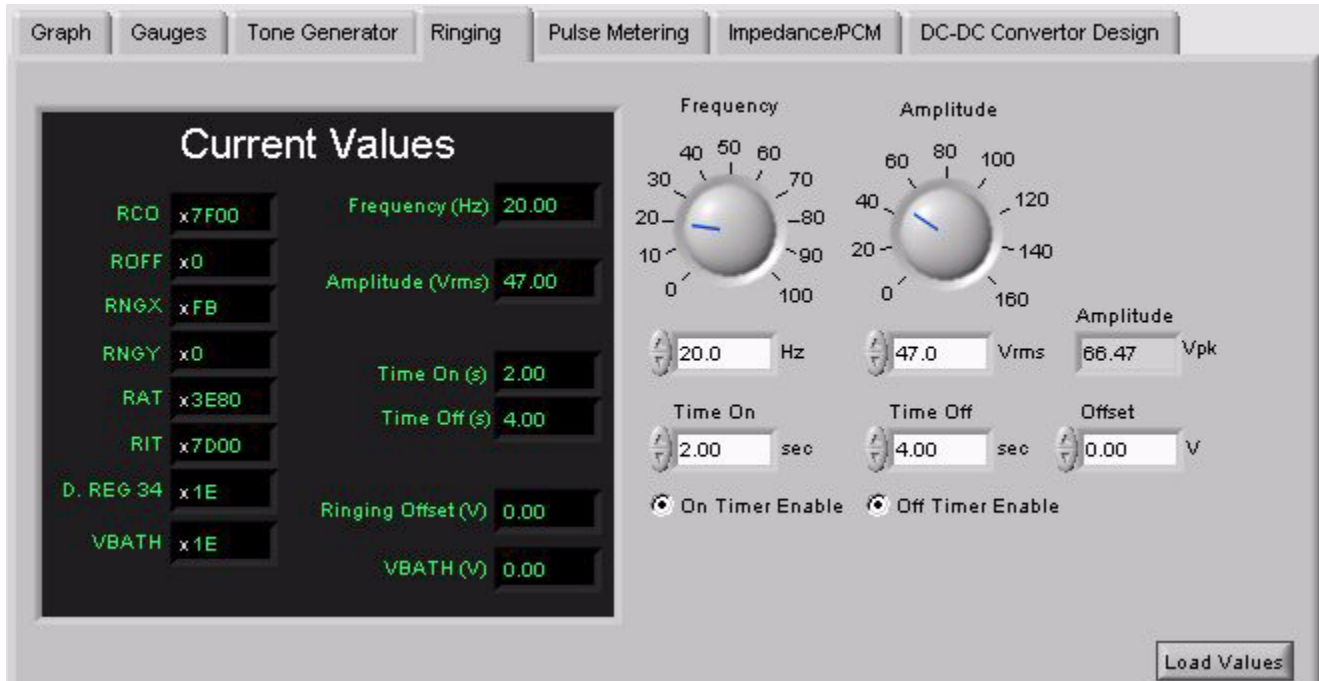

Figure 8. Ringing Window
The ringing tab loads the register values needed for the specified ringing values (see Figure 8). The amplitude and frequency may be selected using the knobs or by typing in the box below the knobs. The amplitude is in units of Vrms, but the V_{PEAK} value is also displayed. Each timer can be enabled or disabled using the radio buttons. The pulse metering tab (see Figure 12) operates in a similar manner. The “Force Power-On” radio button sets bit 5 of register 14.
- Figure 8 on page 6 updated.